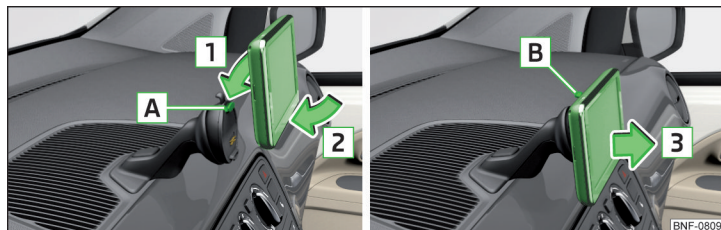

Fig. 85 Inserting/removing the device in/from the fixture
- Place the device first in the top bracket **A** in the direction of arrow **1** » Fig. 85.
- Press the unlocking button **B** and remove the device in the direction of arrow **3** » Fig. 85.